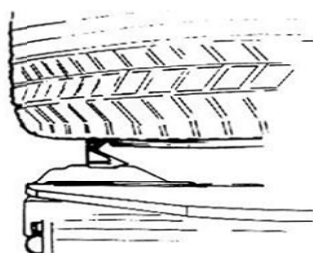

Fig 12
- 3) Put the tire on the turntable, depress the corresponding pedal to close the jaws until they near the rim and touch with the tire.(Fig 12)